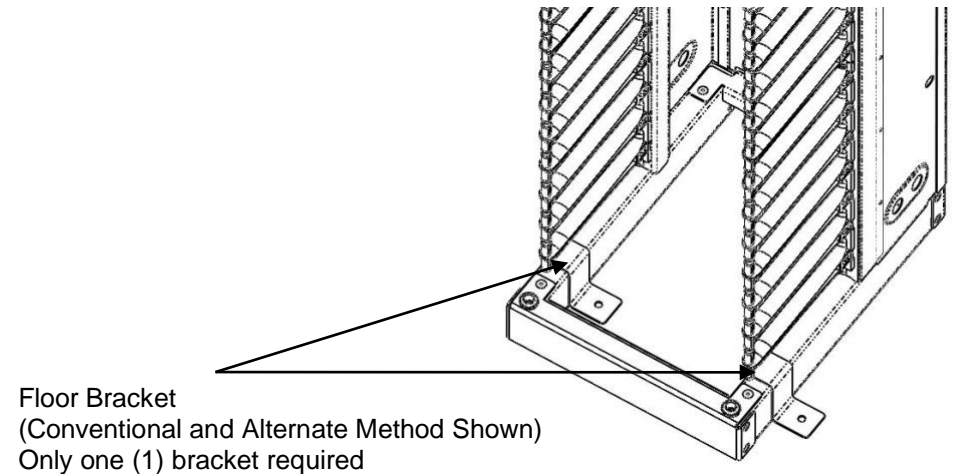

FIGURE 1
- a. One (1) Bracket is recommended for the single-sided Evolution Cable Manager
- b. Two (2) Brackets are recommended for the double-sided Evolution Cable Manager
5. Install Bracket alongside the base frame member. Bracket may be installed on the inside or outside of the cable manager. Refer to Figure 1.